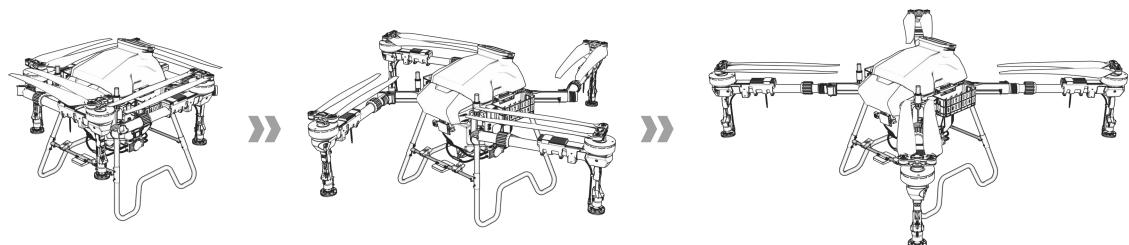

Figure 1-33 Arm Unfolding
**Step 3:** Unfold the arms. See Figure 1-33.